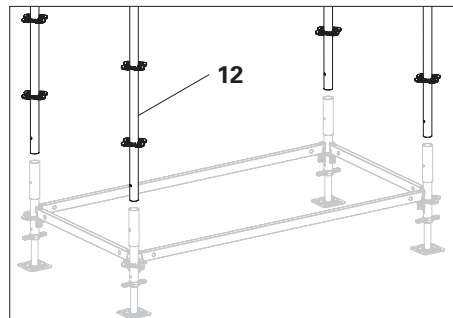

Fig. A2.03a
1. Insert Standard UVR-2 (**12a/12b**) into Base Standard UVB 25 (**11**) or onto Standard UVR-2. (Fig. A2.03a)